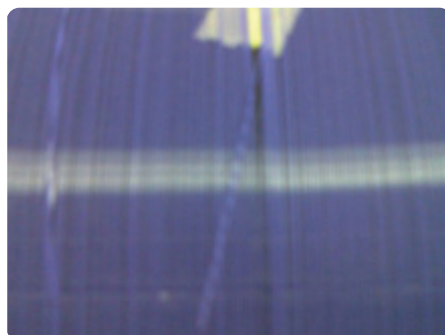

Figure 6
3. Inner end stuck to spool barrel during coloring: Inappropriate working practice during coloring. Sometimes during the coloring process the fiber inner end is stuck to the barrel of the take-up spool rather than being fed through the spool inner end window and stuck to the outside flange of the spool. This practice can cause whipping as the fiber end may become loose during high-speed rotation (Figure 6).